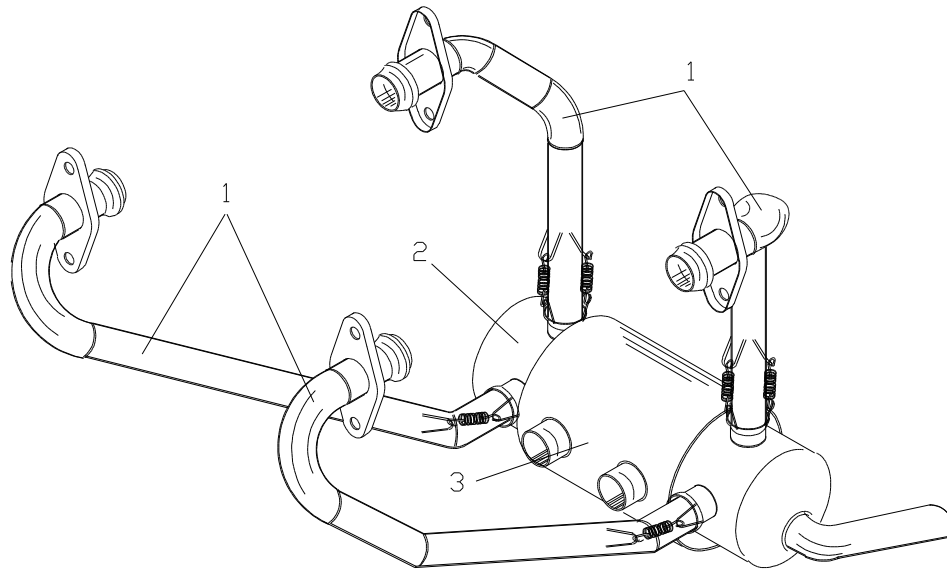

FIGURE E-7 EXHAUST MANIFOLD
With reference to figure E-7, exhaust manifolds (1) are flanged to the engine and join the muffler separately (2). The muffler also works as a heat exchanger (3) for carb. and cabin heat.